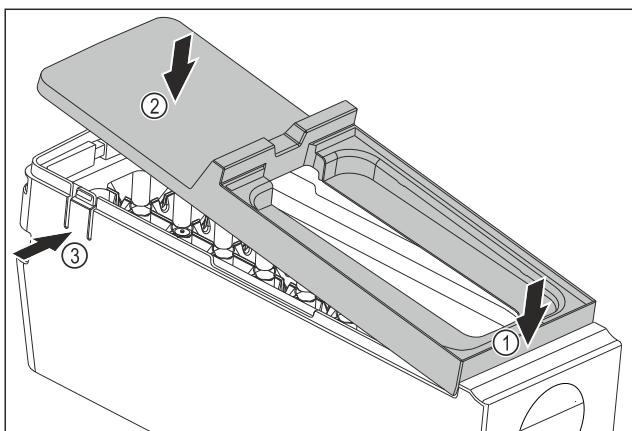

Fig. 127
- Installing the EasyTwist-Ice body cover: Place the cover on the front. Fig. 127 (1)
- Lower the cover at the rear. Fig. 127 (2)
- The cover locks into both tabs Fig. 127 (3) audibly.